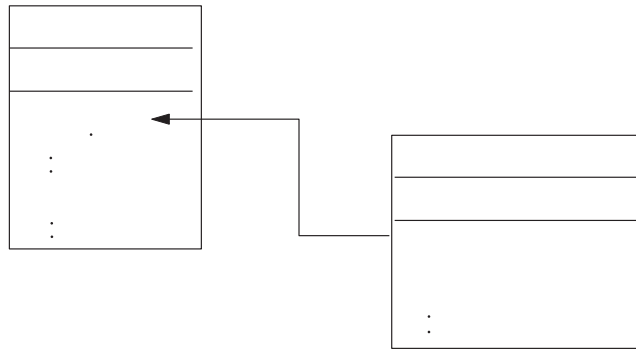

Figure 32. Example customer and sales view relationship
- In a multiple-cardinality relationship, the foreign key is determined by the primary key in the child referencing the **primary key** attribute in the parent. Each child has at least one simple attribute that contains the parent's primary key as a foreign key. The child has as many foreign-key attributes as the parent has primary-key attributes. Figure 32 on page 209 provides an example.
Figure 32 on page 209 provides an example of a different WebSphere business object developed to process customer objects in SAP. This example SAP_Customer has a multiple-cardinality relationship to the example sales view object that it contains (the sales_view_data[n] attribute has cardinality n). The primary key attribute (customer_id) in the child business object references the primary key (customer_id) in the parent business object.